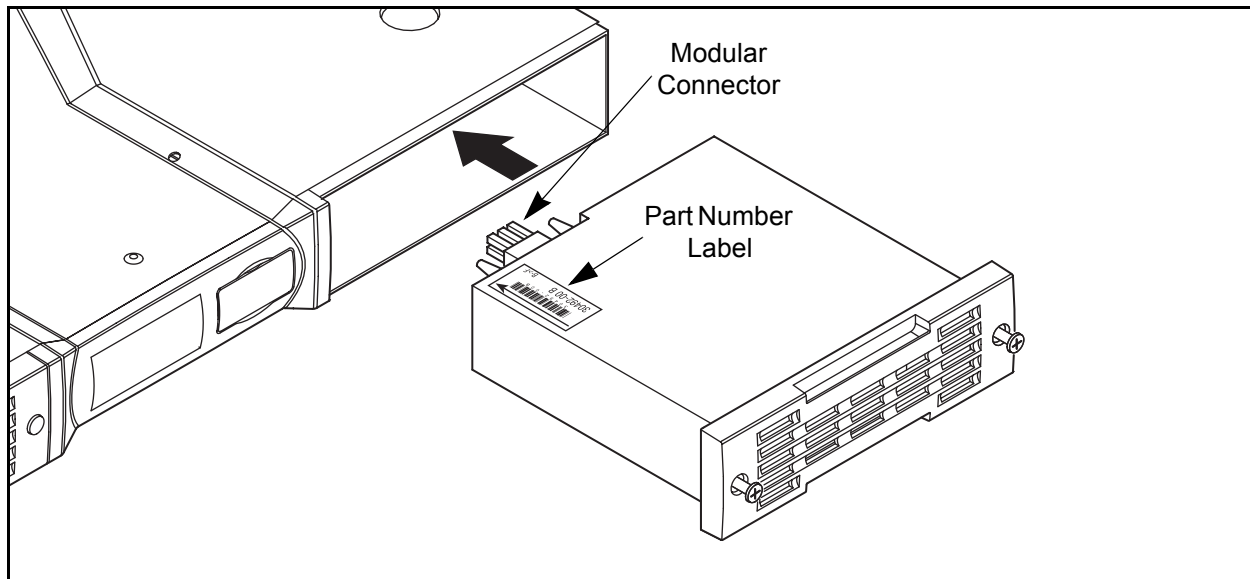

Figure 6-4. Fan Installation for Switch Model SB2A-16B
- The left and right fans are interchangeable. However, you must orient the fan so that the modular connector aligns with the mating connector in the switch as shown in Figure 6-4.
- A label on the fan indicates the switch model number and fan air flow direction as shown in Figure 6-4.
2. Align the modular connector toward the inside of the switch as shown in Figure 6-4.